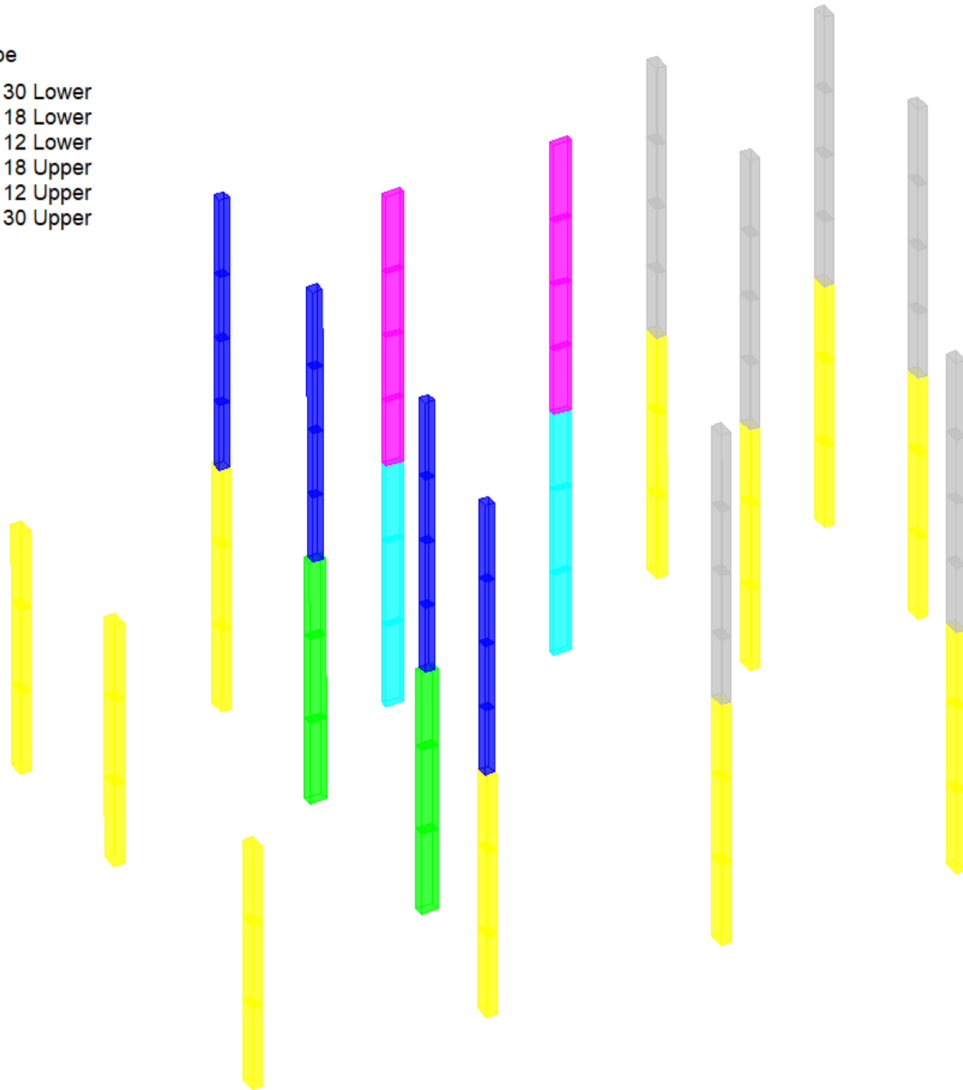

FIGURE 15-8
In this section, column section types will be assigned to each column. Section types are used to assign column design parameters such as base reinforcement (vertical bars and ties), materials, column dimensions, etc. to each column. This is necessary as a starting point in the column code check/design process. Multiple columns can be assigned to the same section type. In this tutorial we will create unique section types categorized by unique column size and the location in the structure. **FIGURE 15-8** shows a colorized view of the columns assigned to the different design groups. Each design group will be assigned a section type.
- There will already be 4 Section Types in this list. Use the **New (Insert)** tool to create 2 more Section Types. Rename the *Section Types* as shown in legend of **FIGURE 15-8**.
We now need to assign the correct section type to each column. Refer to **FIGURE 15-8** for the column section type assignments.
- Select all the yellow columns as shown in **FIGURE 15-8** by holding **Ctrl** and selecting each column.